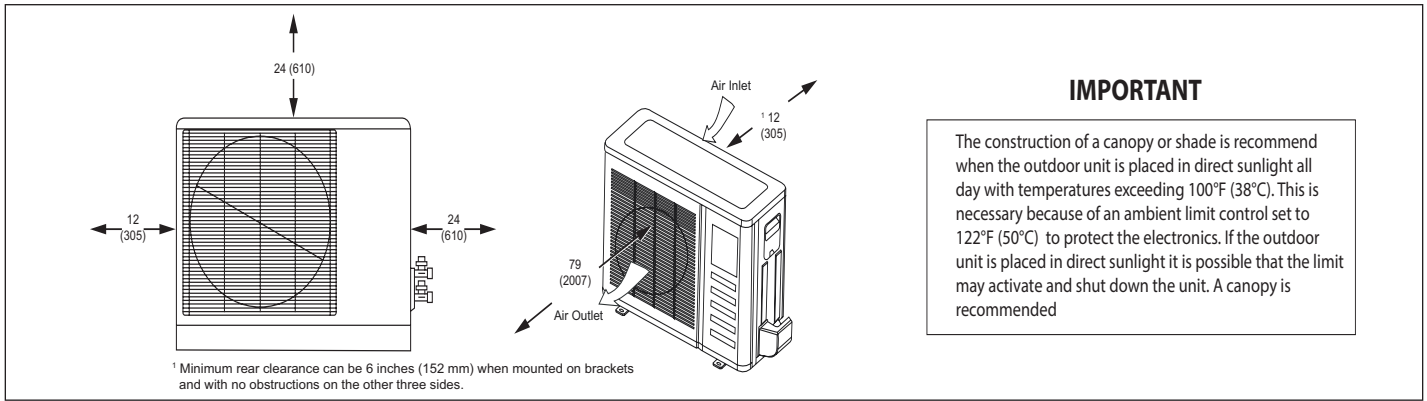

Figure 4. Outdoor Unit Clearances - Inches (mm)
If unit coil cannot be installed away from prevailing winter winds, some method of protecting the coil is recommended. However, minimum clearances as reference in “Figure 4. Outdoor Unit Clearances - Inches (mm)” on page 5 must be observed at all times.
- When prevailing winds are from the air inlet side, then position the wind barrier a minimum of 12 inches (305 mm) from the unit as illustrated in “Figure 4. Outdoor Unit Clearances - Inches (mm)”.